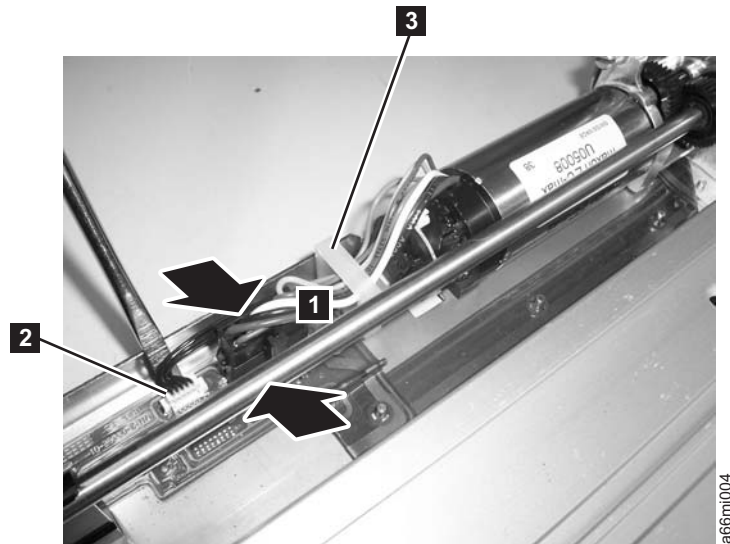

Figure 8-65. Y motor connector
3. Connect the small white connector (**2** in Figure 8-65 on page 8-67).
4. Connect the large black connector. See Figure 8-65.
- a. Pinch the latch on the cable connector (**1** in Figure 8-65).